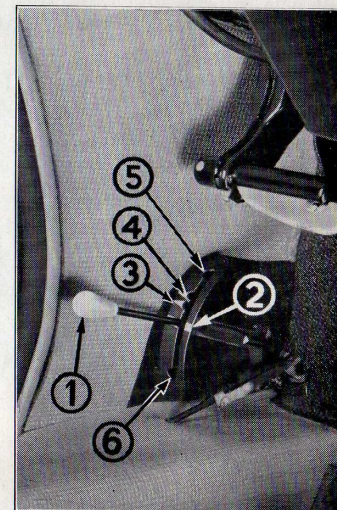

Figure 8
To increase the ground clearance by about 1", the lever 1 (fig. 8) which is normally in position 2 is moved to position 3. To increase it by a further 2" the lever is moved to position 4. The suspension gives the most comfortable ride when the car is at its normal height (lever 1 in the position 2). The lever can also be moved to two extreme positions, 5 and 6, for jacking the car when changing a wheel. These positions must not be used under any conditions for normal driving.
— Move the lifting lever **1** (fig. 8) completely upwards; the car will rise slowly. Remove the hub cap with the flat end of the stand pin.
- Push down the lifting lever **1** to position **6** (fig. 8) and wait until the wheels rise (the front and rear wheels on the side on which the stand is placed rise simultaneously).
- Move the lifting lever to the top position **5** (fig. 8).